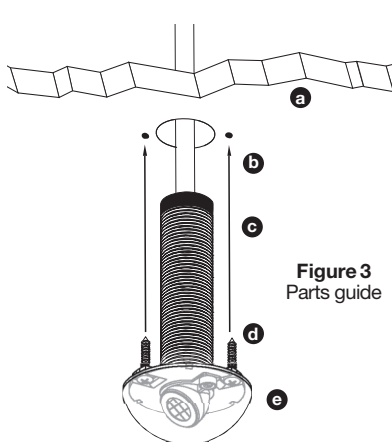

Figure 3
4. Fasten sensor to ceiling with supplied screws (Figure 3).